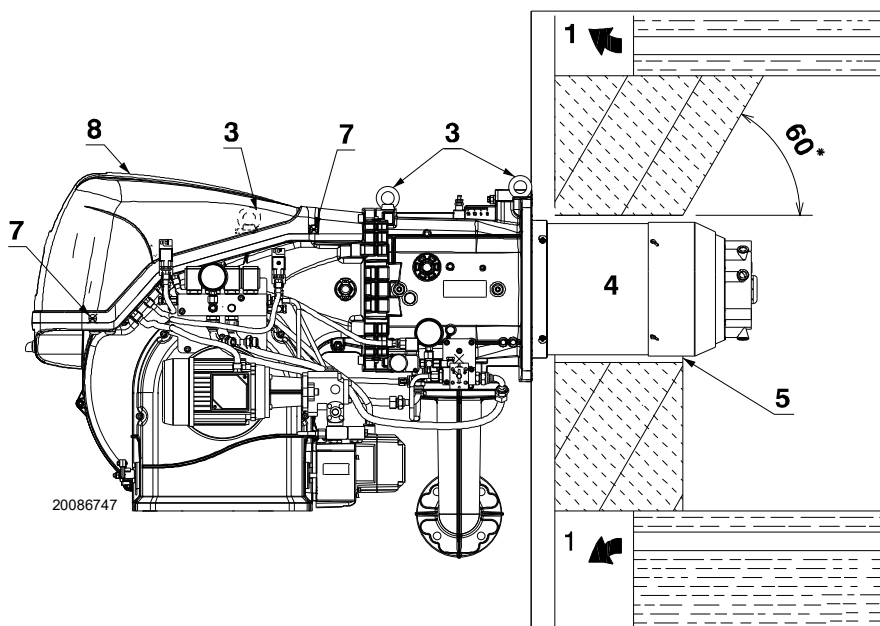

Fig. 12
Prepare a suitable lifting system using the rings 3)(Fig. 12), after removing the fixing screws 7) of the casing 8).
- Fit the heat insulation supplied onto the blast tube 4)(Fig. 12).